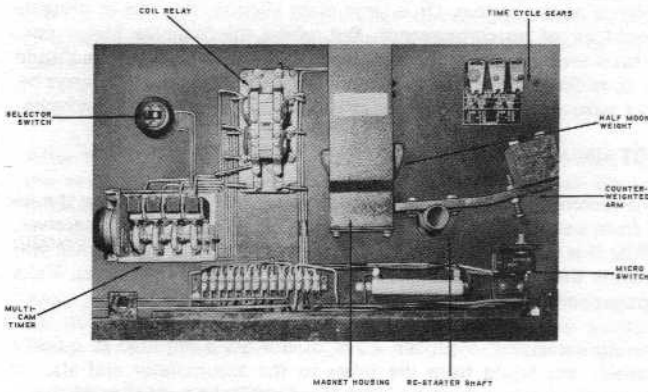
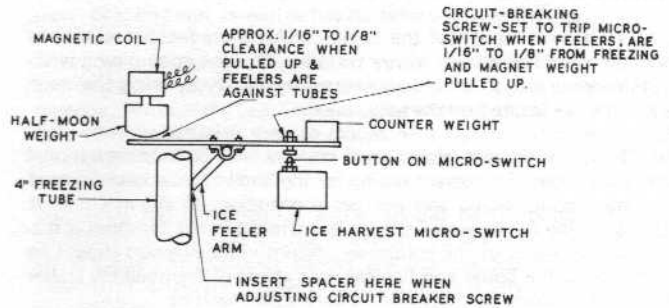
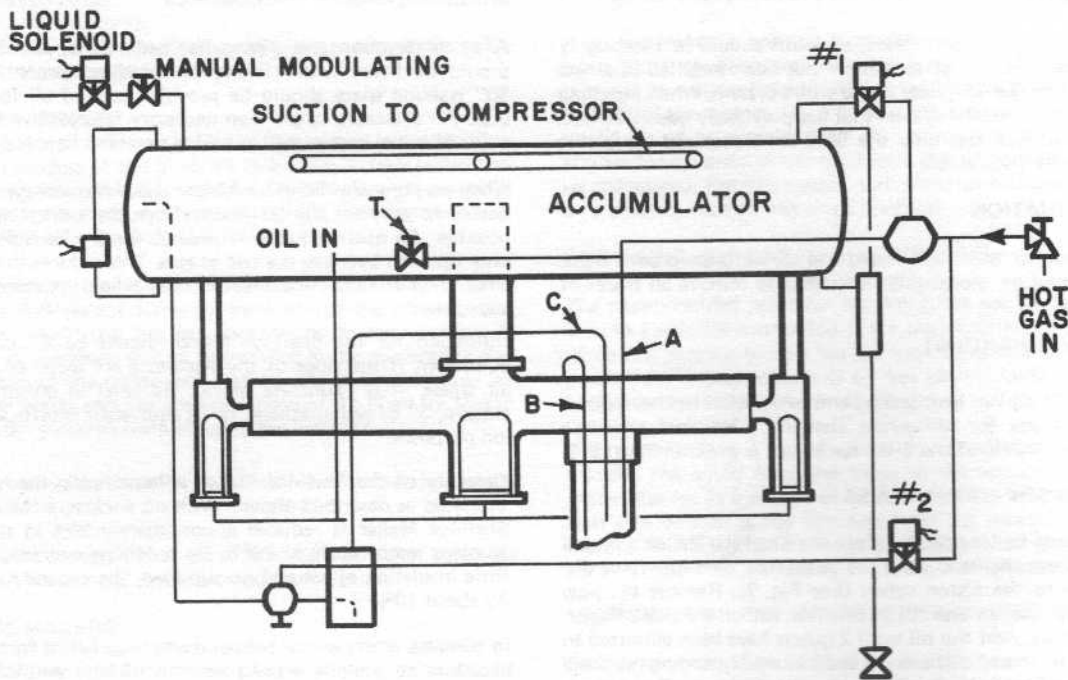

Fig. 3 — Control Box and Components
Fig. 4 — Adjustments of Restarter Controls
Fig. 7 - Schematic Diagram Arrangement of Typical Shell - Ice Maker
Now install the counterweighted control arm on the end of the re-starter shaft which extends through the control box. (See Fig. 3). Position the control arm on the re-starter shaft so that it will not bind on the magnet housing. Rotate the re-starter shaft so that the feeler arms rest against the tubes. Manually lift the half moon weight so that it is in the "UP" or energize position. Clamp the control arm to the re-starter shaft, allowing 1/16" to 1/8" clearance between the control arm and the half moon weight. (See Fig. 4). Be sure the feeler arms are against the tubes and that the half moon weight is all the way up when the clamping operation is done.
Adjust the circuit breaking screw next. (See Fig. 4). With the half moon weight held manually in the "up" position, insert a 1/16" spacer between one of the feeler arms and one of the tubes. Adjust the circuit breaking screw so that the micro-switch button de-
Now adjust hand valve (T) in the hot gas line which brings discharge pressure to bear on the piston valves (Fig 7). Normal setting for this valve is 1-1/2 turns open. Piston valves should close with a light thud at the start of the harvest cycle. Do not allow these valves to close in a violent manner; this will result in serious valve seat damage.
Within 30 seconds after the piston valve closes, ice will begin to harvest from the freezing tubes and drop into the ice breaker. When the ice slides from the last tube, the circuit breaking adjusting screw (Fig. 4) will trip the ice harvest micro-switch. This breaks the circuit to the relay coil, top contacts of relay open and bottom contacts close. The main pilot operated hot gas valve (Fig. 7), will close, solenoid valve in liquid line to float will open, and the pump will start. Water will flow over the tubes and a new freezing cycle will begin.
Operation of the Shell-Ice Maker is controlled by the Multi-cam timer located in the control box (Fig. 3). The time clock is normally geared for a single revolution of the cams in 12 minutes, which is usually best for normal ice requirements. Additional gears for 8, 10 and 15 minute cycles are furnished for use when thicker ice is required or the application requires a different time cycle. Ice should never be frozen over 1/2" thick on the tubes.
Cam No. 1 is next to the clock motor. As the roller resting on Cam No. 1 drops into the cam detent, switch No. 1 located next to Cam No. 1 makes contact. This energizes the relay coil which closes the solenoid valve in the liquid line. (See Fig. 7). Switch No. 1 also stops the water recirculating pump, opens solenoid valve No. 1 which pilot operates the main hot gas valve causing it to open, starts the ice breaker motor and energizes the magnet in the control box (Fig. 3). The energized magnet lifts the half moon weight, allowing the re-starter shaft to rotate until the feelers rest against the ice on the
As the main hot gas valve opens, hot discharge gas flows through the hot gas piping to immediately close the gas operated piston valves in the liquid down legs and gas return leg. (Fig.7). At the same time hot gas passes into pipe "A" which is inside the 4" stainless steel freezing tube. Pipe "A" carries hot gas to a pocket in the bottom of the freezing tube and up out of the pocket through pipe "B", bringing discharge pressure to bear on the liquid in the header. This pressure forces liquid ammonia out of the header and freezing tube up through pipe "C", which is open at the bottom.
Cam No. 4 controls the operation of the water recirculating pump through the selector switch. (See Fig. 3). With the selector switch in the "ON" position, the action of Cam No. 4 has no control over the water recirculation pump. With the switch in the "off" position, Cam No. 4 takes control and stops the pump. The purpose of this is to dry the ice by turning off the water approximately 45 seconds to 1 minute before the harvest.
To produce dry ice before harvesting, move the selector switch in the control panel of the Shell-Ice Maker to the "off" position. (See Fig. 3) This stops the water recirculation pump approximately 45 seconds before the harvest, permitting the ice to dry before it is placed in storage. Usually the ice must be 3/8" thick before drying is effective. To provide extra dry ice, the capacity of the Shell-Ice Maker is reduced approximately 5%.